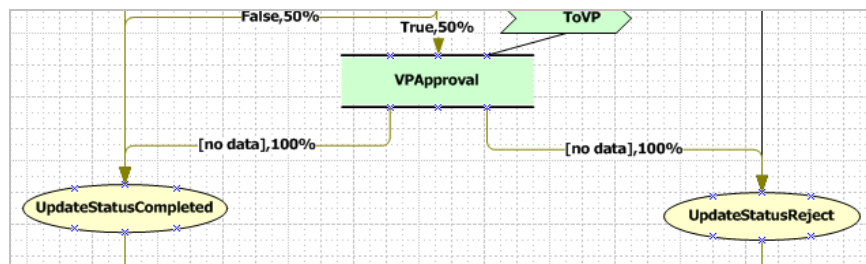

Figure 3-32. Connectors from Assignment Shapes
- e. Connect the second connector head to the UpdateStatusReject Utility shape (Figure 3-32).